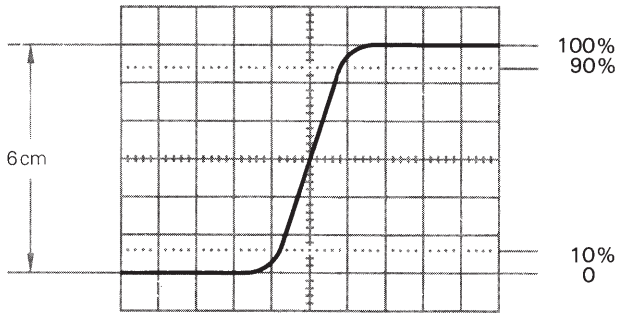

Fig. 18
This time is referred to as the rise time (or fall time)  $t_{\text{tot}}$ , and is normally measured between 10 % and 90 % of the pulse height. See Fig. 18 below. The 10 % to 90 % limit is used to ensure that transients, ramp-offs and bandwidth limitations do not influence the measuring accuracy.
The HM605 CRT’s internal graticule is especially calibrated and divided for rise time measurements. (See Fig. 18 below).
1. Adjust TIMEBASE controls until pulse is displayed as shown in Fig. 18 above. The X POS, X MAGN x10, and the sweep delay facility may have to be used.
3. Measure distance (time  $t_{tot}$ ) between the two points at which trace crosses the dotted lines 2.4 cm above and below the centre line (See Fig. 18).